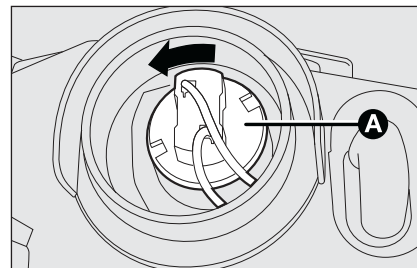

fig. 22
- turn the bulb holder clockwise **A-fig. 22** and withdraw it;